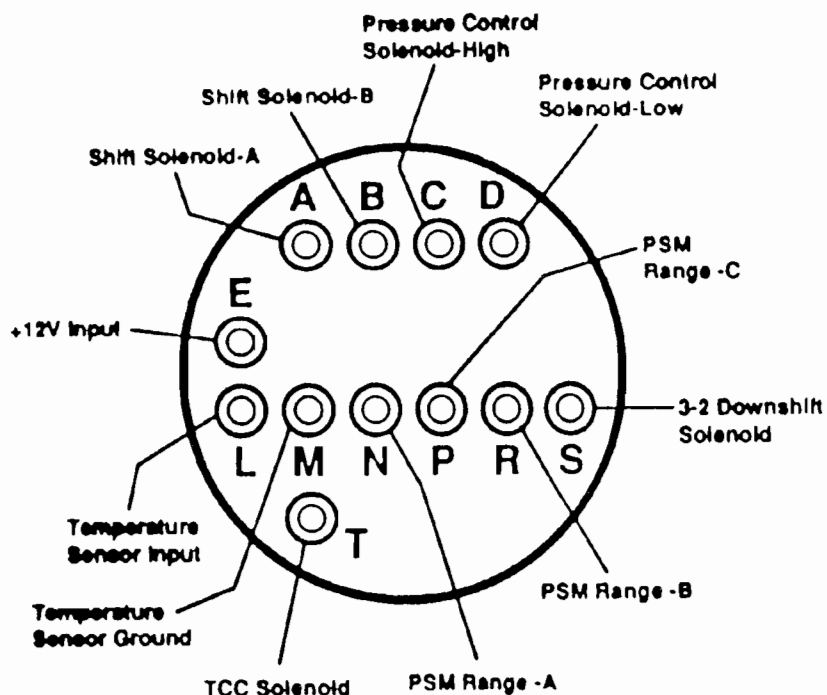

Figure 14
2. If checking from outside the transmission, Ohmmeter leads from terminal "C" to terminal "D", Ohmmeter should read 3-5 ohms (See Figure 14).
2. If checking from outside the transmission, Ohmmeter leads from terminal "E" to terminal "A", Ohmmeter should read 20-40 ohms (See Figure 14).
2. If checking from outside the transmission, Ohmmeter leads from terminal "E" to terminal "B", Ohmmeter should read 20-40 ohms (See Figure 14).
2. If checking from outside the transmission, Ohmmeter leads from terminal "E" to terminal "S", Ohmmeter should read 10-15 ohms (See Figure 14).